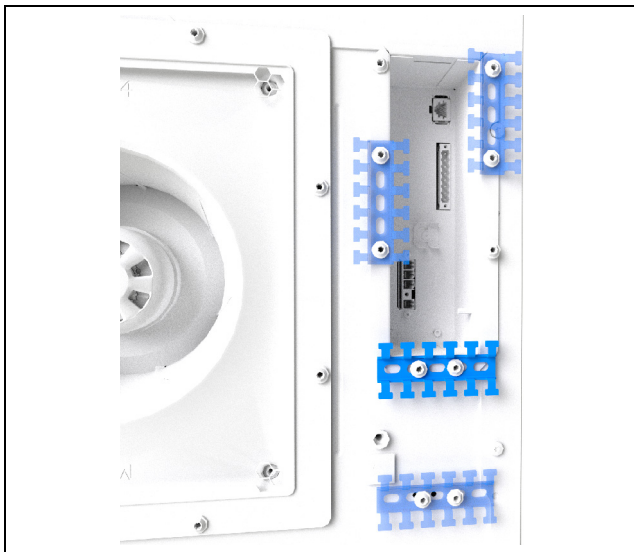

Fig. 18: Attach the T-rail (example illustration)
- The cable shield can make contact with the T-rail (fig. 18).